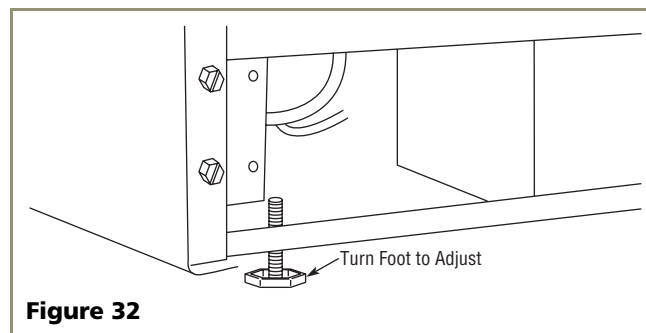

Figure 32
2. If the refrigerator is not level, adjust the feet on the corners of the unit as necessary (see **Figure 32**).